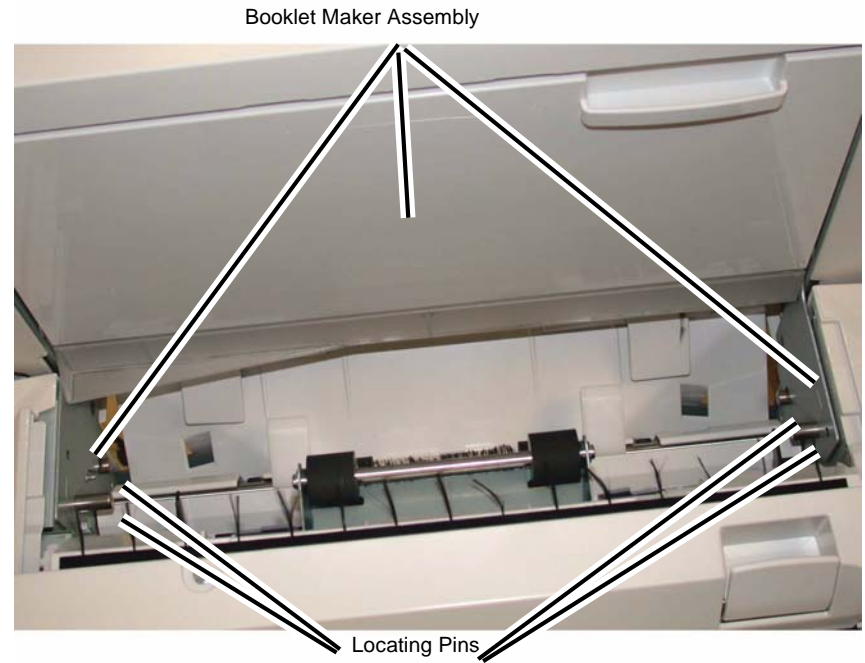

Figure 4 Removing the Booklet Maker Assembly
5. Lift the Booklet Maker Assembly off the Locating Pins (4), and remove (Figure 4).